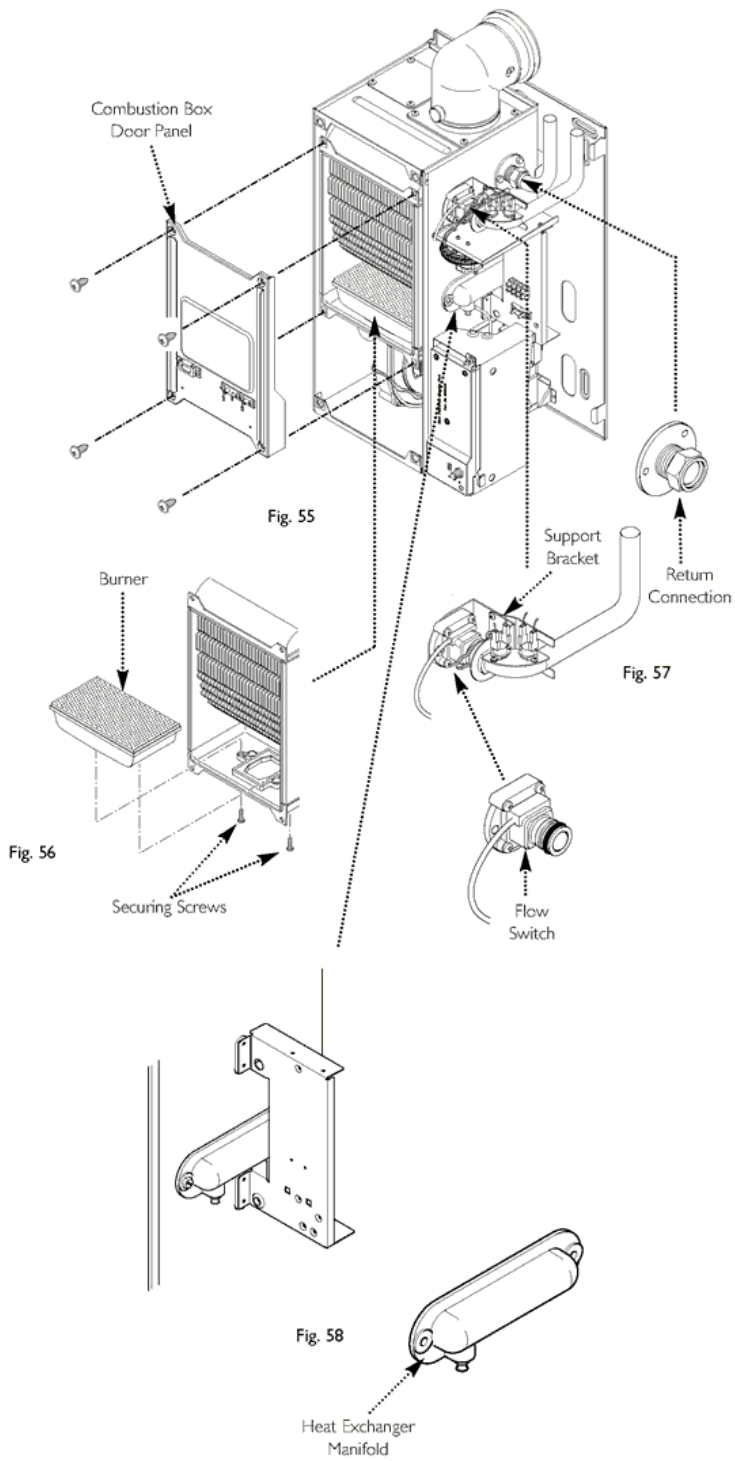

Fig. 55, Fig. 56, Fig. 57 & Fig. 58
1. Remove the combustion box door by removing the four securing screws (Fig. 55).